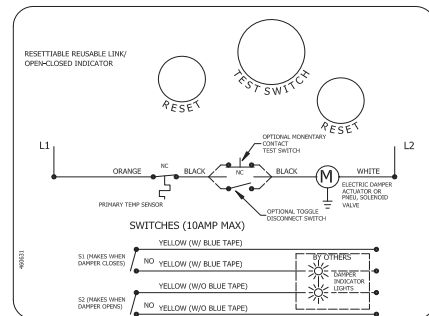

Figure 8: RRL/OCI
**RRL /OCI** - The RRL/OCI performs the function of an RRL and OCI (see description above). Refer to **Figure 8** for wiring of the RRL/OCI option.